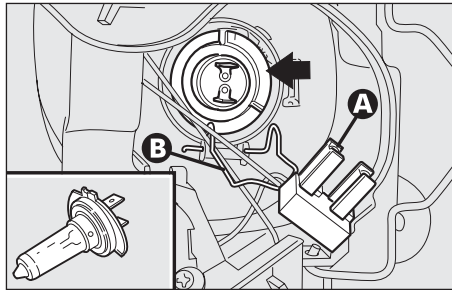

fig. 27b
**Main-beam headlights (fig. 27b)**